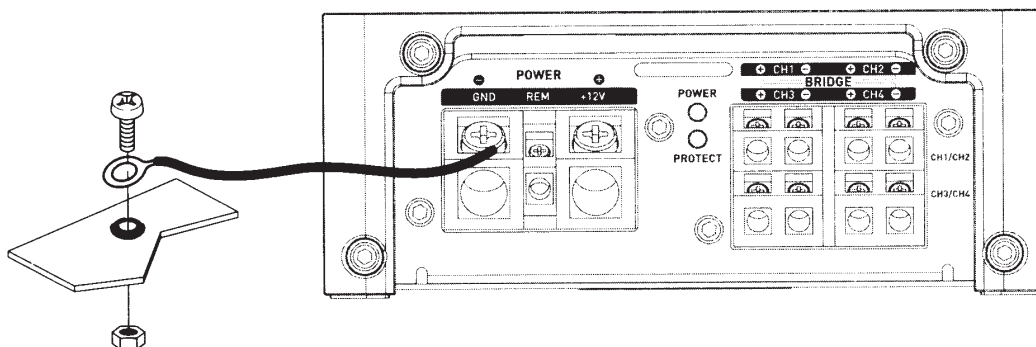

fig. 2
- 10 - Prepare the chassis ground (earth) by removing all traces of paint from the metal surface, thus ensuring a good ground (earth) contact. Ground (earth) connections should be as short as possible and **ALWAYS** connected to metal welded to the vehicle bodywork or chassis (**Fig. 2**). The grounding (earthing) point usually chosen is the one used to connect the negative terminal of the battery to the vehicle chassis.
3.3.2 – Locate the negative (-) power cable. This cable should be as short as possible and ideally should not exceed 1 meter in length, in order to ensure an optimal connection between the amplifier and the vehicle chassis. The cable and its gauge must be in accordance with the table in 3.1. Locate an appropriate ground (earth) point, then sand it to remove all traces of paint or other finish, thus optimising the quality of the connection. Drill through the sheet metal you have previously sanded, making a hole to match the bolt you have chosen, ensuring you are well clear of all cable routes, reservoirs or tanks or other sensitive vehicle parts. Solder and insulate (using heat shrink sleeving) the earth cable to the FPX amplifier earth connector supplied (**Fig. 2**).